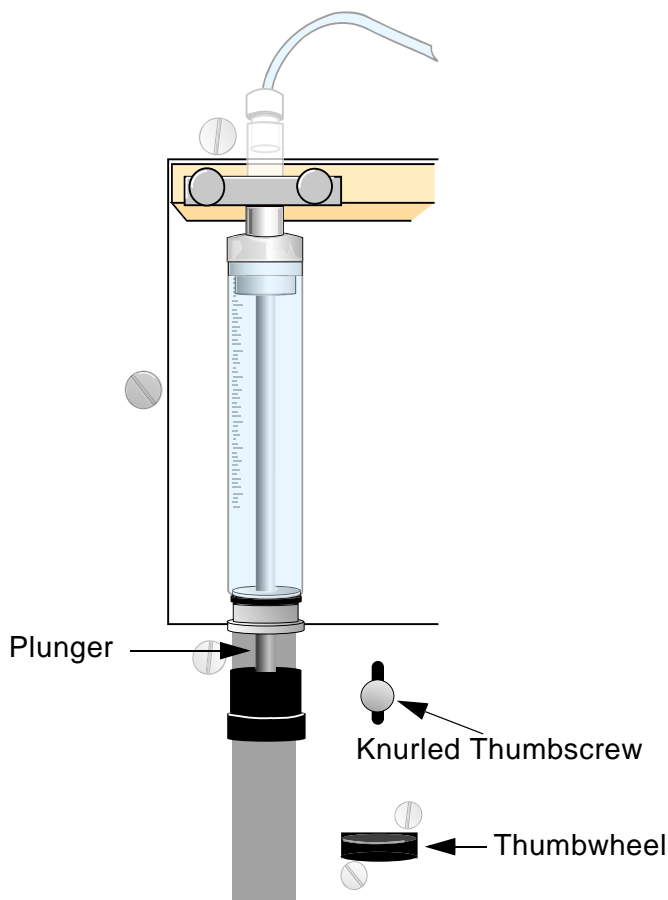

Figure 5-6. Syringe Knurled Thumbscrew
1. Loosen the knurled thumbscrew approximately two turns, as shown in Figure 5-6.